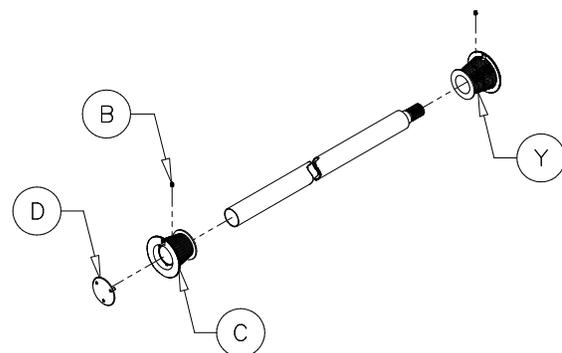

Figure 8
Procedure: Raise the rolltube and place it on the top of the cart so that it rests on the hoops and hoods located on the left side of the cart (driver side) making sure that the spline is at the rear of the cart. Roll out the tarp to the right side of the cart some; position the tarp so that the material sits 2 inches back from the face of the front hood. Pull the tarp down the side of the cart on the left side so the pocket holding the tarp quick release bar (N) hang down the side of the cart approximately 3 to 4 inches. The quick release bar will be held against the side of the cart by the tarp stop (O) (see Figure 8). Make sure the tarp material is 2 inches away from the face of the front hood. Mount the front and rear tarp stops 4 inches in from the edge of the tarp material. Drill a 5/16" hole through the predrilled hole in the tarp stop and into the cart wall. There may be pre drilled holes in the cart to use. Secure the tarp stops to the cart with the 3/8" x 1-1/4" self-threading bolts provided. The remaining tarp stops are to be centered according to the length of the cart. Make sure that the quick release bar is positioned parallel with the cart lip.